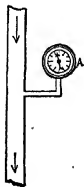

FIG. 10. The pressure gage  $A$  indicates the pressure of the water in the pipe.
**9. Measurement of Pressure. Voltmeter.** When we wish to measure the water pressure in a pipe, we tap a pressure gage on to the pipe line, as (A) in Fig. 10. Note that no current flows through the gage. It is merely tapped on to the pipe at the point at which we wish to measure the pressure, so that the pressure can get at it and cause it to indicate. The pipe, and current flowing through it, are not disturbed. Similarly, when we wish to measure the electric pressure causing an electric current to flow through, say a lamp, we do not disturb the circuit nor the current flowing